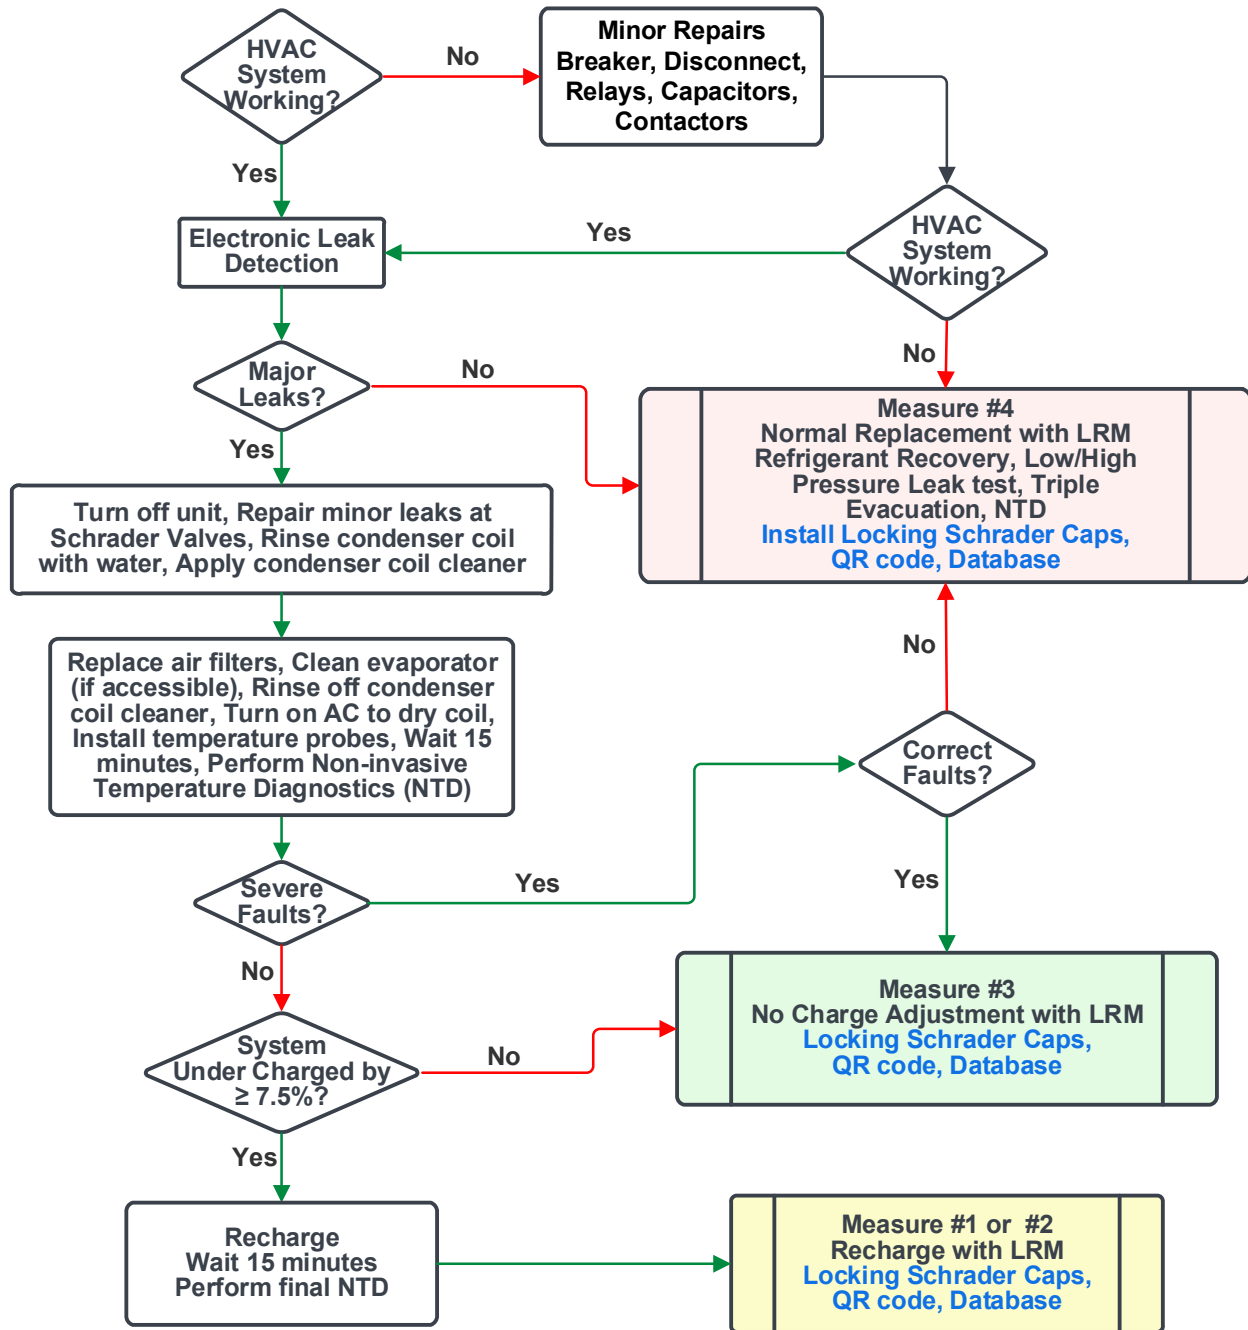

Figure 3.4 LRM NTD Workflow
- Suction Temperature (ST)
- Liquid Temperature (LT)
11. The LRM NTD workflow is shown in **Figure 3.4**. Offering #1 is an AC Tune-up with $\geq 7.5\%$ charge addition with LRM and Verified RCA. Offering #2 is a HP Tune-up with $\geq 7.5\%$ charge addition with LRM and Verified RCA. Offering #3 is no charge adjustment with